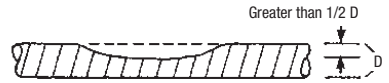

Figure 5.2 Repair Necessary
- The tubing has been significantly crushed or dented (a dent greater than  $\frac{1}{8}$  the diameter of the pipe). (Figure 5.2)